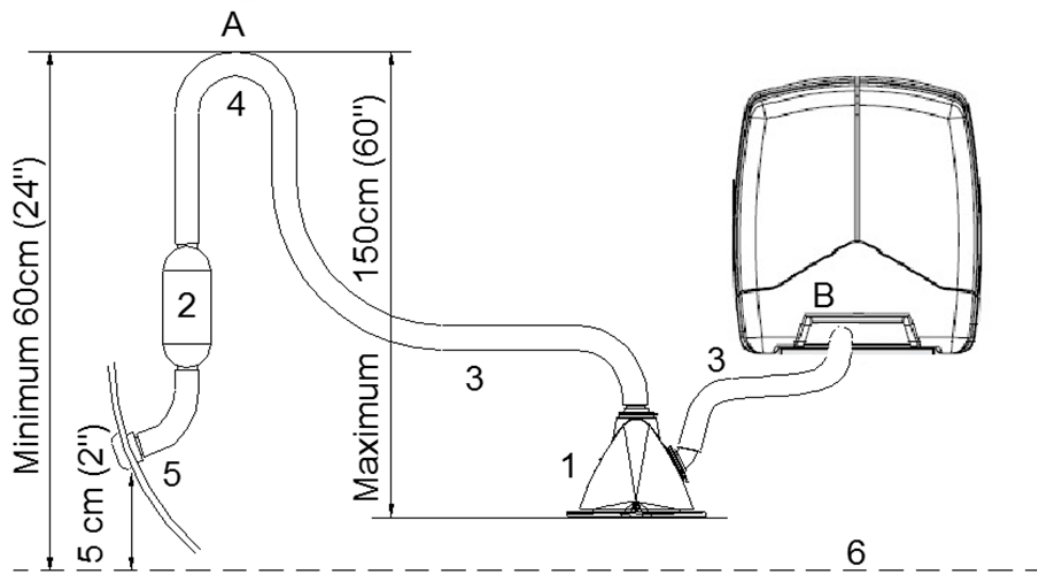

Figure 9: Standard exhaust system
The generator wet exhaust system must remain completely independent and separate from the exhaust system of any other engine on board. A water lock prevents the generator from being flooded by cooling water and should be installed as close to the generator as possible. The lock must be large enough to hold the entire water volume held in the hose from the top of the goose neck to the water lock. The water lock must be installed at the lowest point of the exhaust system (refer to Figure 9, ref. 1). The exhaust hose must have an inner diameter of 40 mm no less, no more-. The exhaust system must be installed so that the back pressure inside the exhaust does not exceed 0,8 psi 60 cm. water pressure (refer to the user's manual) and total length up to the outlet or water separator does not exceed 2,5 m. The exhaust hose descends from the capsule to the water lock. Then the hose rises maximum lift 120 cm via the "goose neck" to the through-hull exhaust outlet, situated minimum 50 mm above the water line (refer to Figure 6, ref. 5). The "goose neck" must be vertical and situated preferable along the ship's keel centre line. It is recommended to install an extra muffler (see Figure 9, ref. 2) close to the through-hull fitting.